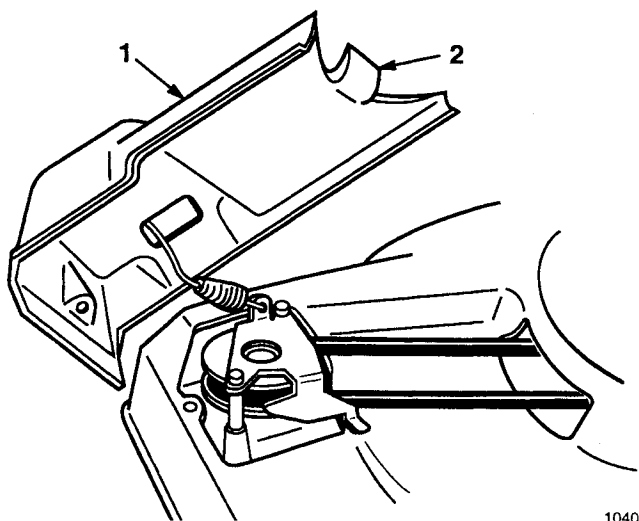

Figure 31
1. Remove screw and slide belt cover to rear, unhooking tab on front of cover from deck opening. Tilt cover up to the side and remove debris (Fig. 31) from under cover and pulley groove.